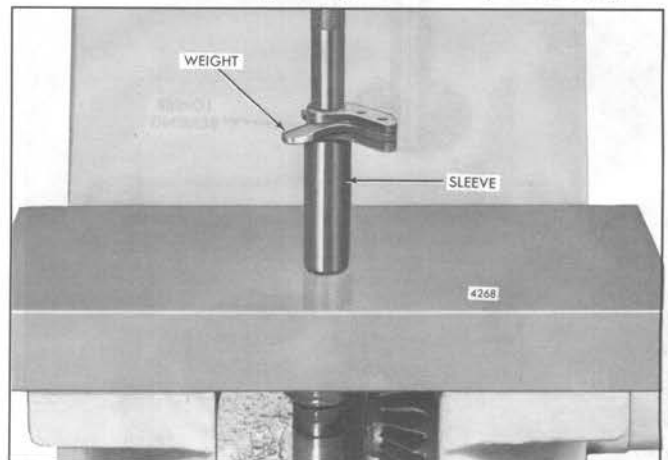

Fig. 14 - Removing Governor Weight Bearings using Tool J 8985
- c. Position the high-speed governor weight on a sleeve on the bed of an arbor press and press the bearing from the weight using replacer J 8985 (Fig. 14).